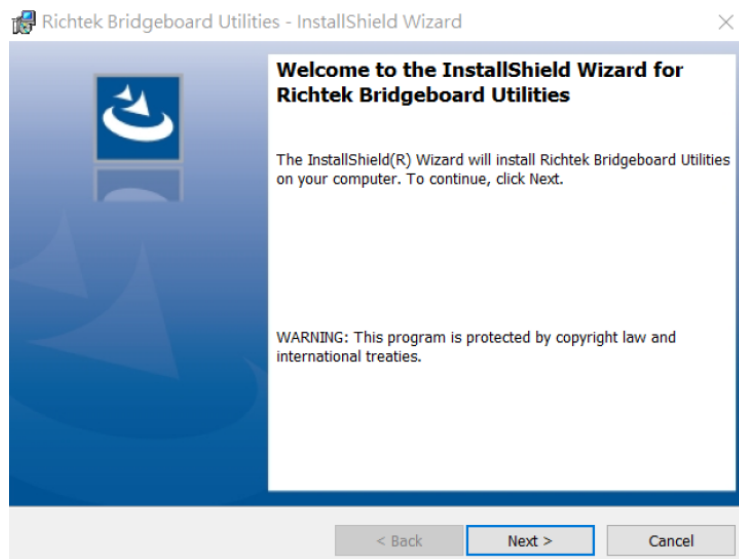
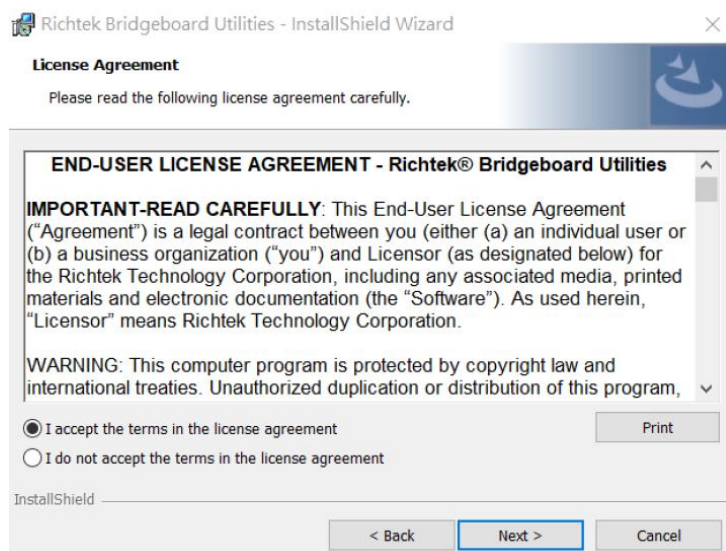
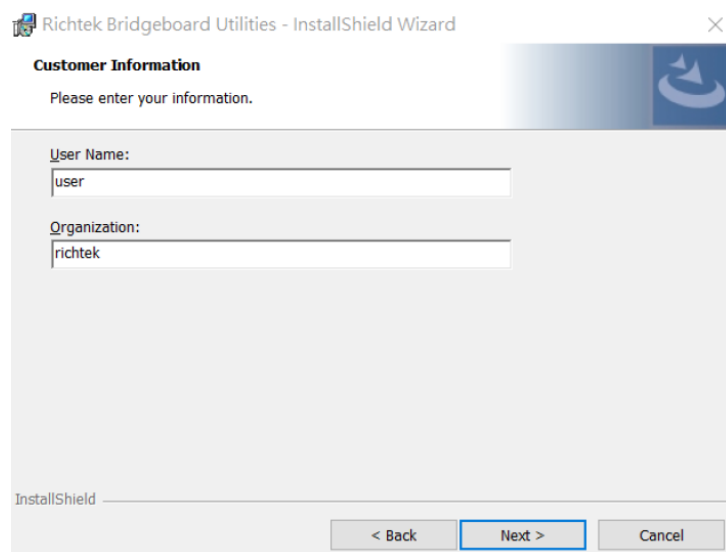

Figure 5. Driver Installation Step 5
Figure 6. Driver Installation Step 6
Figure 7. Driver Installation Step 7
Step 5 to 7: After clicking the "Next" button in Figure 5, the License Agreement screen will appear, as shown in Figure 6. Choose to accept and continue by clicking the "Next" button. Then, after confirming the relevant information in Figure 7, click the "Next" button again to proceed.